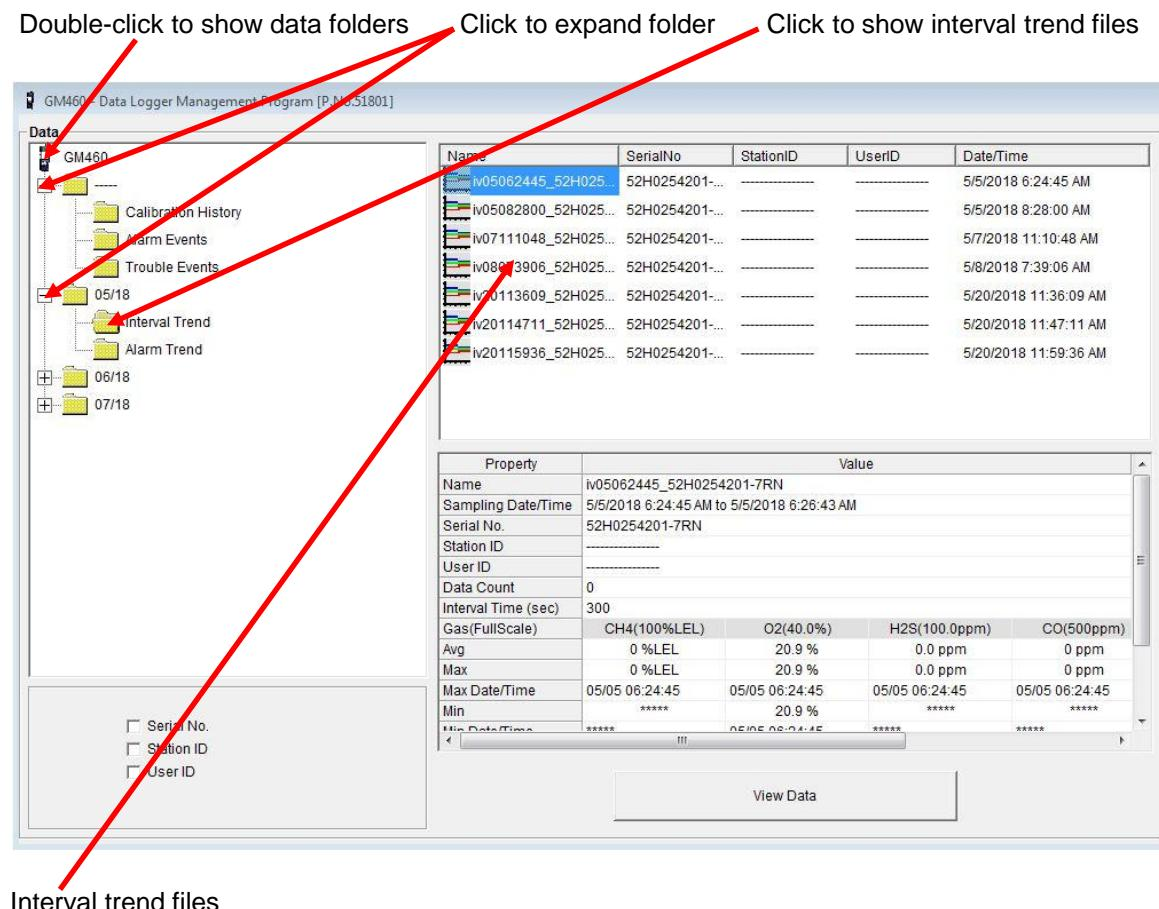

Figure 39: Data Window – Selecting Interval Trend Data Files
- If you click the **Summary** button, the Data Window will split into two frames, one above the other, with the data table in the lower frame and the summary information shown in the upper frame. The summary information is the same as the one shown in the lower right frame in Figure 39. To return to the one frame format, click **Summary** again.